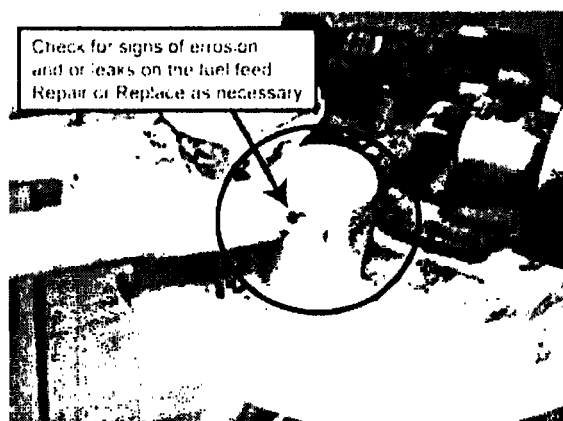

figure 1
1. Inspect the fuel pump feed port for signs of fuel leakage or electrostatic discharge mark(s) as shown in *figure 1*.